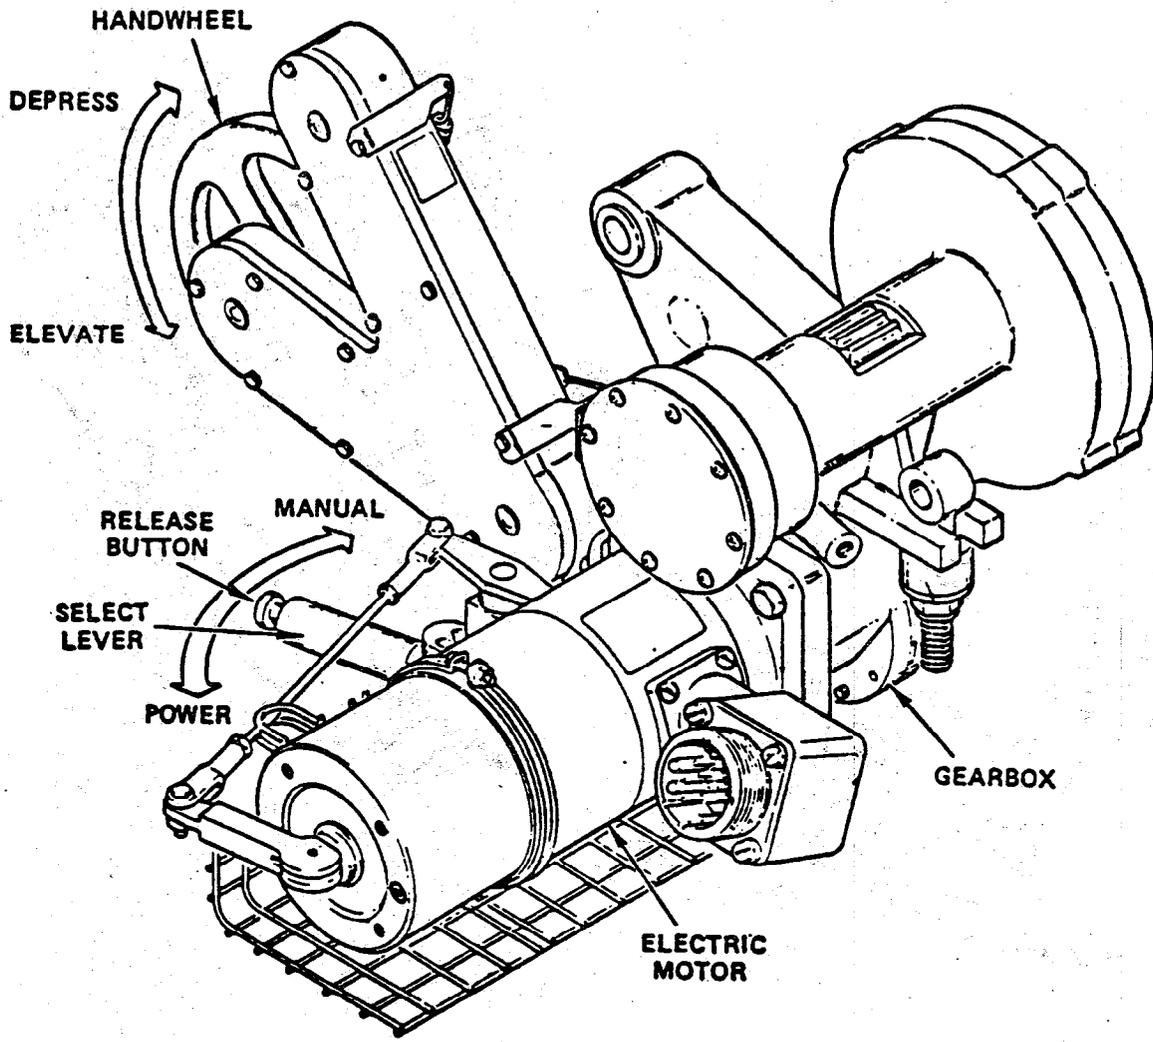

Fig. 14
- b. Gun Elevation Drive - drives gun rotor from -10° to $+59^{\circ}$ in power or manual mode. Same rates in power mode as traverse. Weight of gun in rotor balanced by equilibrators (to prevent damage to drive by uneven loading). (See Fig. 14.)